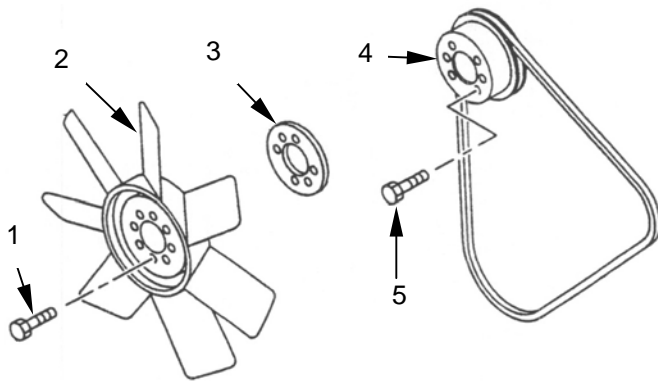
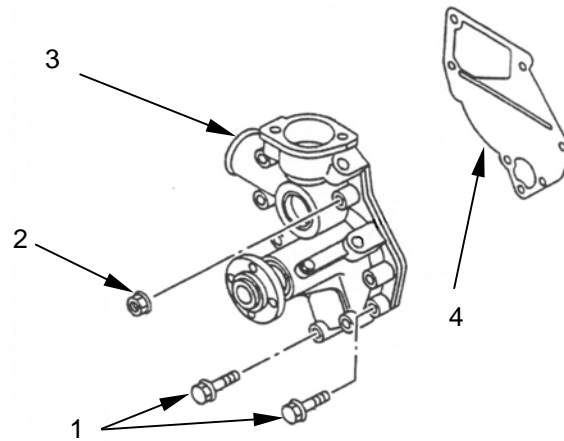

Figure 38. Fan And Belt
Figure 40. Water Pump
- f. Loosen and remove fan mounting bolts (**figure 38, item 1**).
- h. Remove fan (**figure 38, item 2**) and spacer (**figure 38, item 3**).
- j. Remove pulley (**figure 38, item 4**) by loosening and removing pulley mounting bolts (**figure 38, item 5**).
- l. Remove water pump mounting bolts (**figure 40, item 1**) and nuts (**figure 40, item 2**).
- m. Remove water pump (**figure 40, item 3**).
- n. Remove water pump cover (**figure 40, item 4**).
- p. Install new cover (**figure 40, item 4**).
- q. Install new water pump (**figure 40, item 3**) and seal with RTV silicone.
- r. Install water pump mounting bolts (**figure 40, item 1**) and nuts (**figure 40, item 2**).
- s. Torque water pump mounting bolts (**figure 40, item 1**) from 1.9 to 2.9 kg-m (13.7 to 21 ft-lbs).
- t. Torque water pump mounting nuts (**figure 40, item 2**) from 1.9 to 2.9 kg-m (13.7 to 21 ft-lbs).
- y. Install pulley (**figure 38, item 4**).
- z. Install pulley mounting bolts (**figure 38, item 5**).
- bb. Install spacer (**figure 38, item 3**).
- cc. Install fan (**figure 38, item 2**) on water pump (**figure 40, item 3**).
- dd. Fasten fan (**figure 38, item 2**) to water pump with mounting bolts (**figure 38, item 1**).
- ee. Torque fan mounting bolts (**figure 38, item 1**) from 1.9 to 2.9 kg-m (13.7-21.0 ft-lbs).